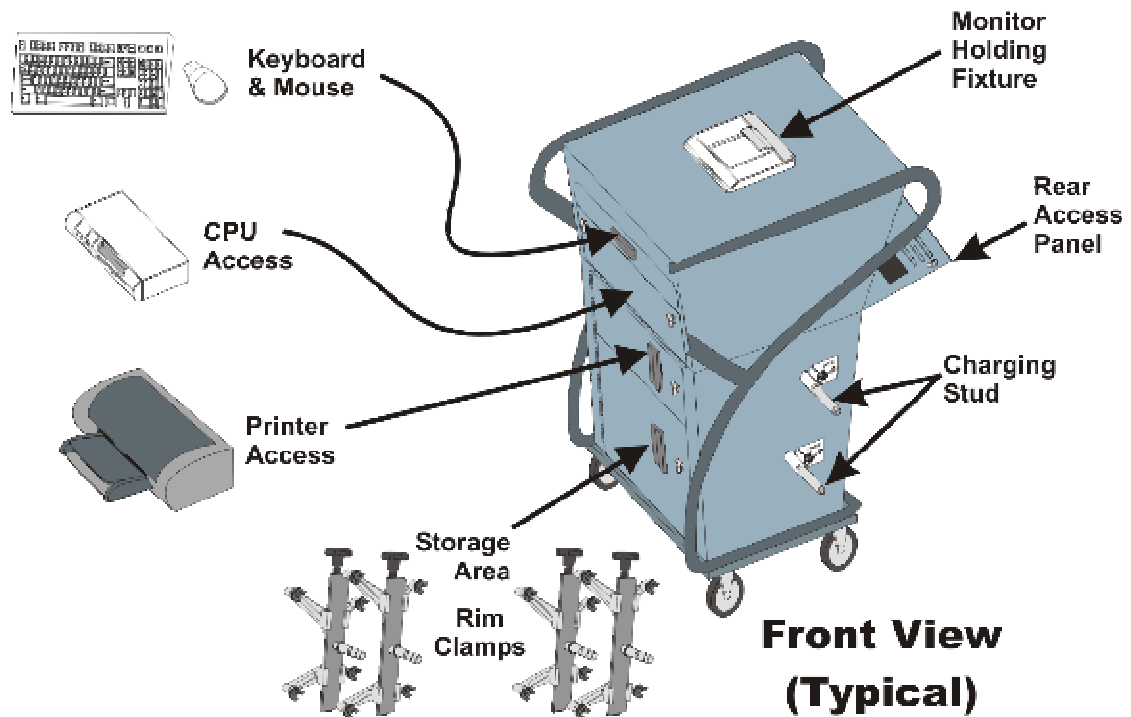

Figure 2-1. Cabinet Compartments and Accessories.
2.2.1 Base Cabinet. A heavy-duty sheet metal cabinet, mounted on casters for portability, with front and rear access panels and doors. Refer to Figure 2-1.